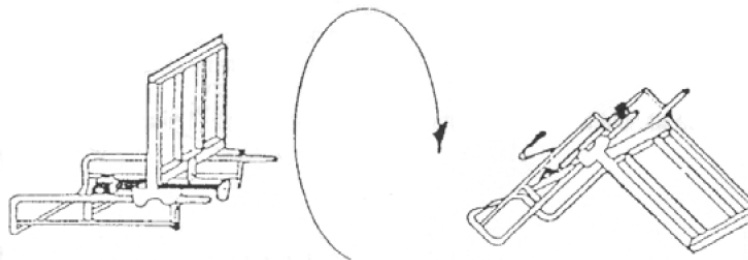

Figure 5
- 4) Invert the unit after attaching the chain, as shown in Figure 5.